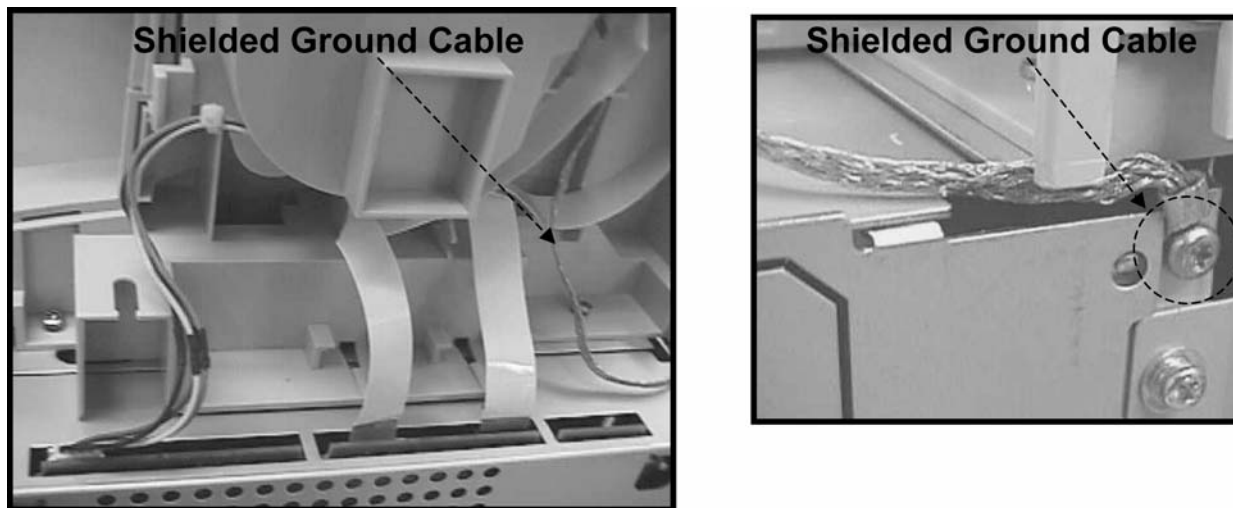

Figure 4
8. Disconnect the shielded ground cable shown in Figure 4.